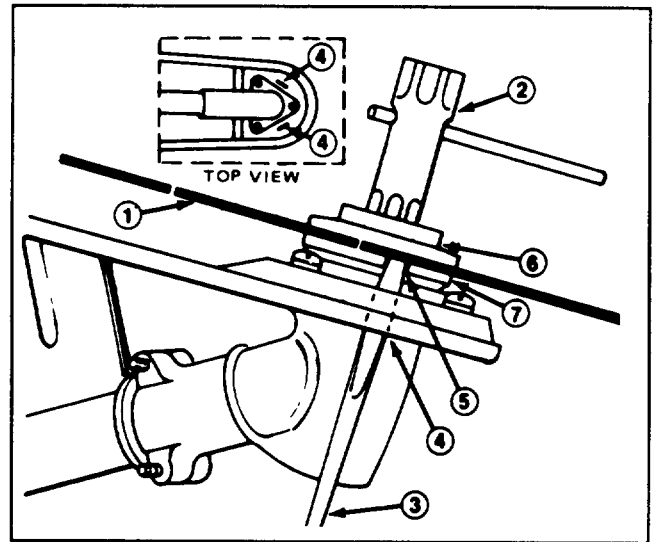

Figure 5
4. Keep shaft from rotating by holding screwdriver as shown and tightening nut securely with wrench (left hand thread) (Fig. 5).